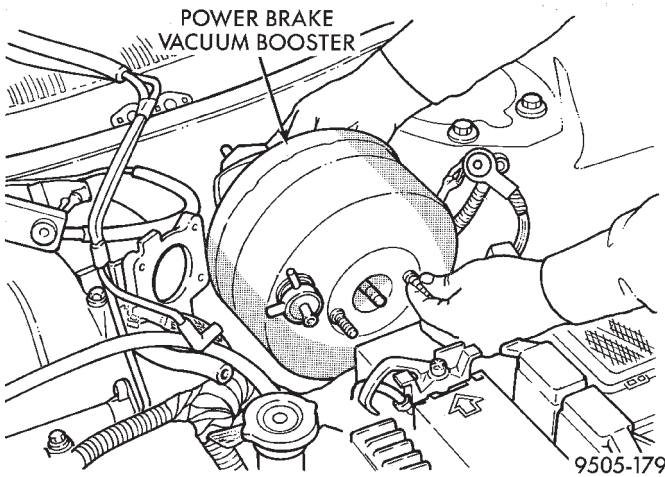

Fig. 117 Power Brake Vacuum Booster Removal
(16) Slide power brake vacuum booster straight forward until mounting studs clear dash panel. Then lift power brake vacuum booster straight up to remove it from the vehicle (Fig. 117).